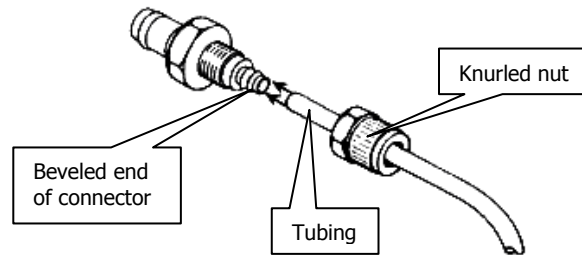

Figure 23 Purge fittings
1. The tubing is connected to the instrument by a universal pipe fitting which is secured to the tubing with a nut. Two sets of fittings are supplied with the instrument. Assemble the fittings to the tubing as illustrated in Figure 23.